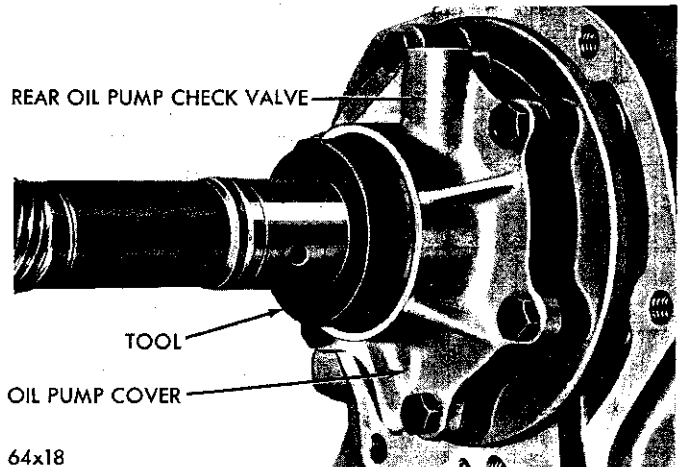

Fig. 42—Aligning Rear Oil Pump Cover
(3) Install the oil pump cover with the retaining bolts threaded in a few turns. Slide the aligning fixture Tool C-3864 all the way in until it bottoms against the rotors (Fig. 42), then retighten the cover bolts evenly to 140 inch-pounds torque.
(4) Install the governor and support. See Paragraph 20.
(5) Install the extension housing, transmission flange and connect the propeller shaft.
(6) Connect the parking lock cable.